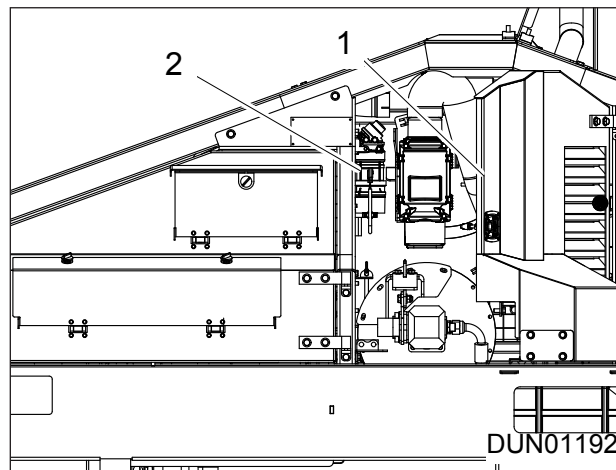
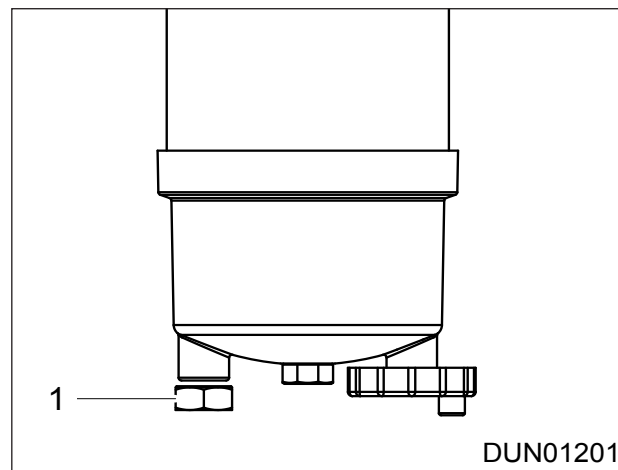

Figure 9.28 - Engine Oil Filters
Figure 9.29 - Water Trap
3. Unscrew the drain bung (Item 1, Reference: Figure 9.29) at the bottom of the water trap (Item 2, Reference: Figure 9.28) and allow the water to drain out into a suitable container.